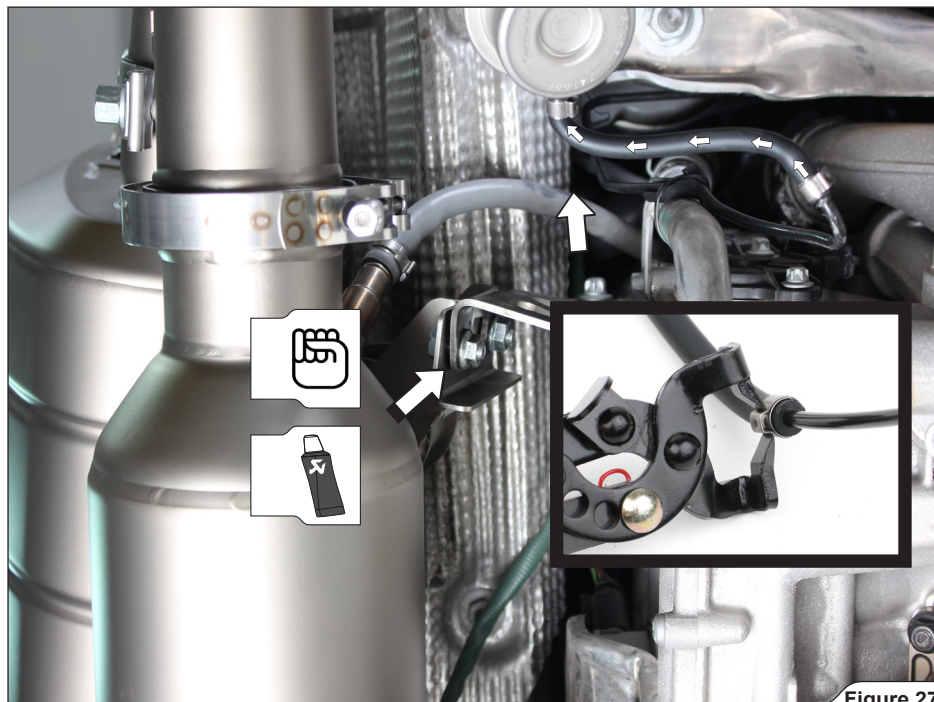

Figure 27
14. Connect the vacuum tubes to the vacuum actuators, as shown (Figure 27).